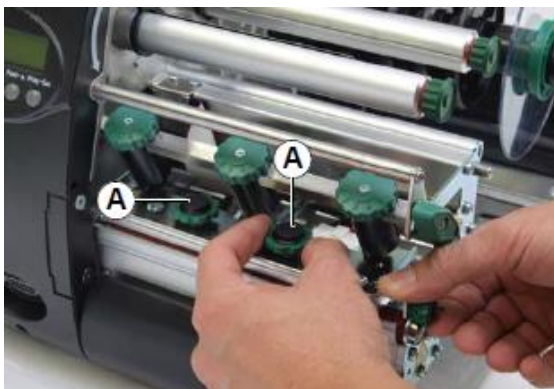

Fig.2 Printhead holding screws
- Open the knurled screws (A) holding the printhead onto the bracket as shown in Fig.2 below. A 4-inch printhead will have 1 and a 6-inch will have 2.